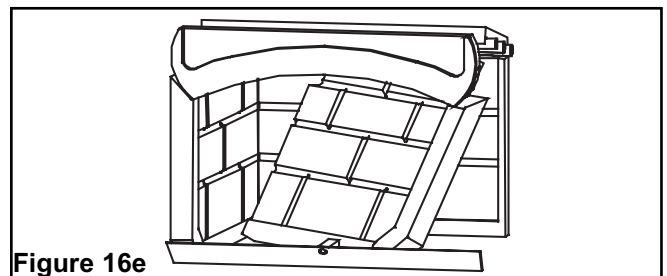

Figure 16e
- 7. Pivot the arch refractory brick until it is in a horizontal position (see Figure 16e) and then slide the right refractory brick until it is in place. The arch refractory brick is supported by the two side refractory bricks.